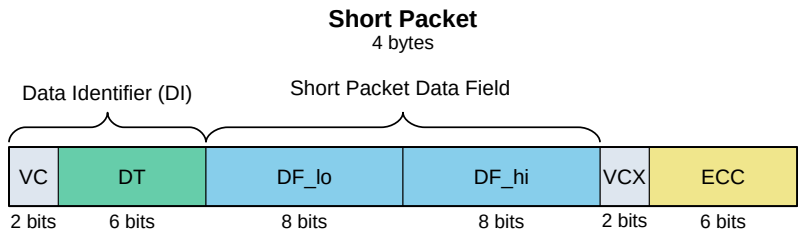
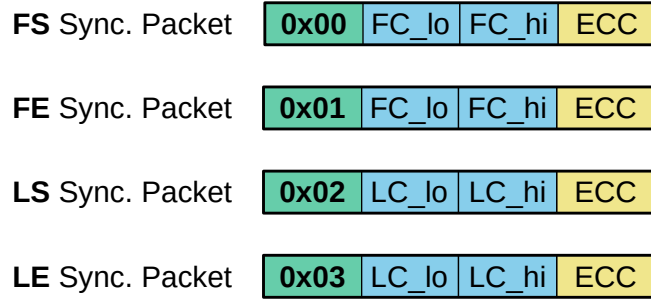

Figure 44: Structure of a short packet
Figure 45: Synchronization packets
A short packet is a packet with a length of only 4 bytes. It contains a 6-bit data identifier (DI), a 16-bit short packet data field and a 6-bit error correction code (ECC) as depicted in Figure 44. Virtual channels are not supported. VC and VCX bits are all zero therefore. A description of the fields is given in Table 20. Only synchronization short packets are transmitted by epc670 (see Table 19).
Data transmission is organized in frames and lines where each frame consists of a least one line. A MIPI CSI-2 frame corresponds to a DCS, a grayscale image, a test pattern image, a register dump or a readout sequencer RAM dump. The number of lines directly corresponds to the number of rows selected in the ROI for images. Hence, the max. number of lines for epc670 is 328. For register and readout sequencer RAM dumps, there is only a single line per frame. Beginning and end of frames and lines are marked by dedicated short packets called synchronization packets. The different synchronization packets are listed in Table 21 and illustrated in Figure 45.
The error correction code (ECC) is calculated over the first three bytes plus VCX (see Figure 44, ignored in Figure 45).